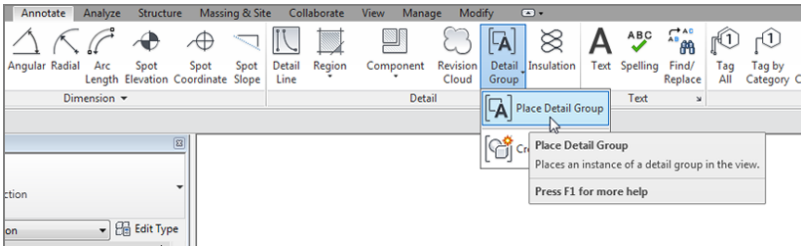

FIGURE 12.65: Choose Place Detail Group.
2. On the Annotate tab, click Detail Group > Place Detail Group, as shown in Figure 12.65.